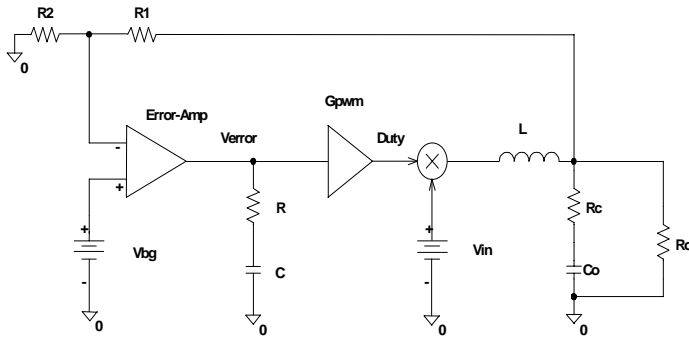

Fig. 1. SC2450 control model.
The control model of SC2450 can be depicted in Fig. 1. This model can also be used in Spice kind of simulator to generate loop gain Bode plots. The bandgap reference is 1 V and trimmed to +/-1% accuracy. The desired output voltage can be achieved by setting the resistive divider network, R1 and R2.
(6) The final step is to generate the Bode plot, either by using the simulation model in Fig. 1 or using the equations provided here with Mathcad. The phase margin can then be checked using the Bode plot. Usually, this design procedure ensures a healthy phase margin.